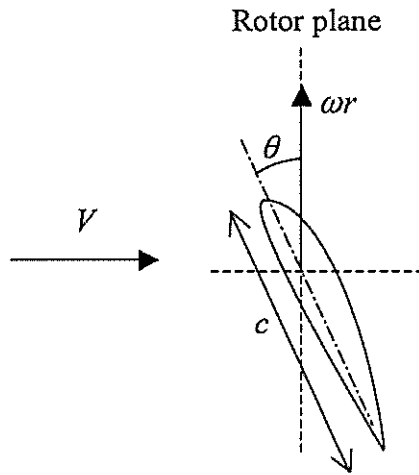
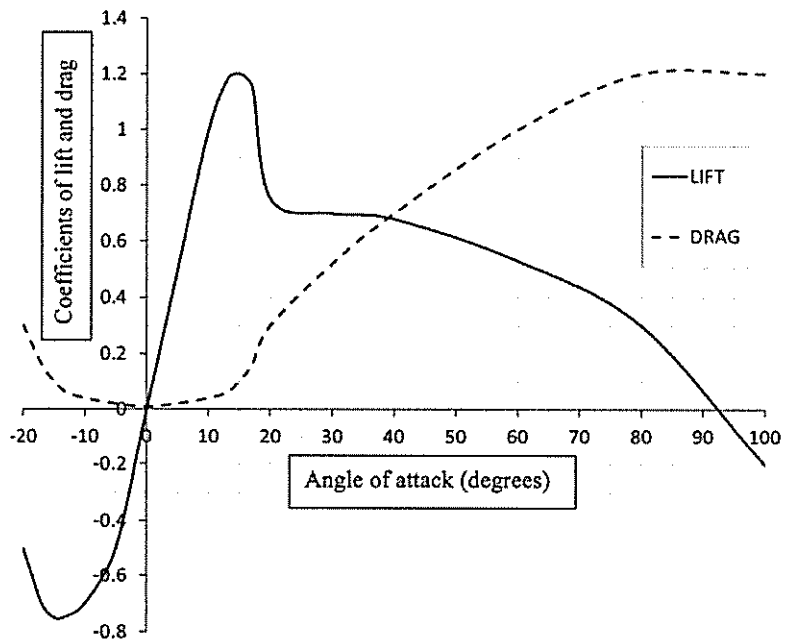

Fig. 4
Fig. 5
8 A three-bladed wind turbine has been stopped for maintenance by a mechanical brake. It is restarted from stationary ( $\omega = 0$ ) by releasing the brake when the turbine is pointing directly into a wind with constant speed  $V = 8 \text{ m s}^{-1}$  and air density  $\rho$  of  $1.2 \text{ kg m}^{-3}$ . The 20 m long turbine blades are of fixed pitch, and have a local twist angle  $\theta$ , a chord length  $c$  (see Fig. 4) and a mass per unit length  $m$ , all of which vary with radius  $r$  as listed in Table 3. The blade has a uniform aerofoil shape with coefficients of lift and drag plotted as a function of angle of attack in Fig. 5.
- (a) Qualitatively explain the shape of the lift and drag coefficient curves shown in Fig. 5. [3]